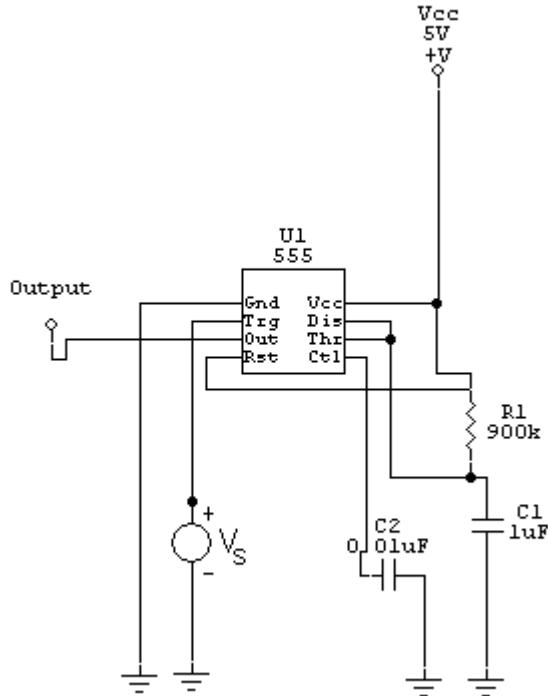

Fig: 6.3 Monostable multivibrator
3. Construct the circuit as shown in Fig 6.3. Connect the circuit output to the CRO. Apply square wave from the Fs at V_s in the range of 1kHz –2kHz Trace the output wave form. Calculate the width of the output pulse. What should be the value of R for the in the same monostable circuit that generates pulses with width half the value.